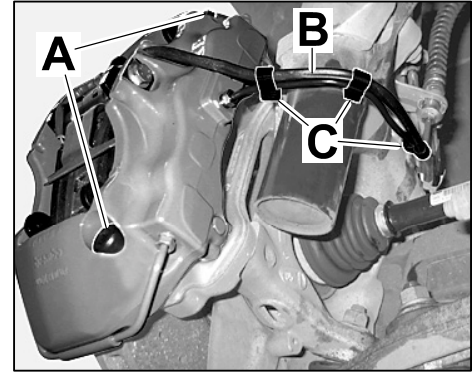

Figure 10
- 5.3.1 Position brake caliper and secure with cheese head bolts (M12 x 1.5 x 62) ⇒ *Figure 10-A-*.
- 5.3.2 Fit new brake line ⇒ *Figure 10-B-* on brake caliper.
- 5.3.4 Fit connector for wear indicator into the wheel carrier and secure electric line for wear indicator to the brake line with retaining clips ⇒ *Figure 10-C-*.